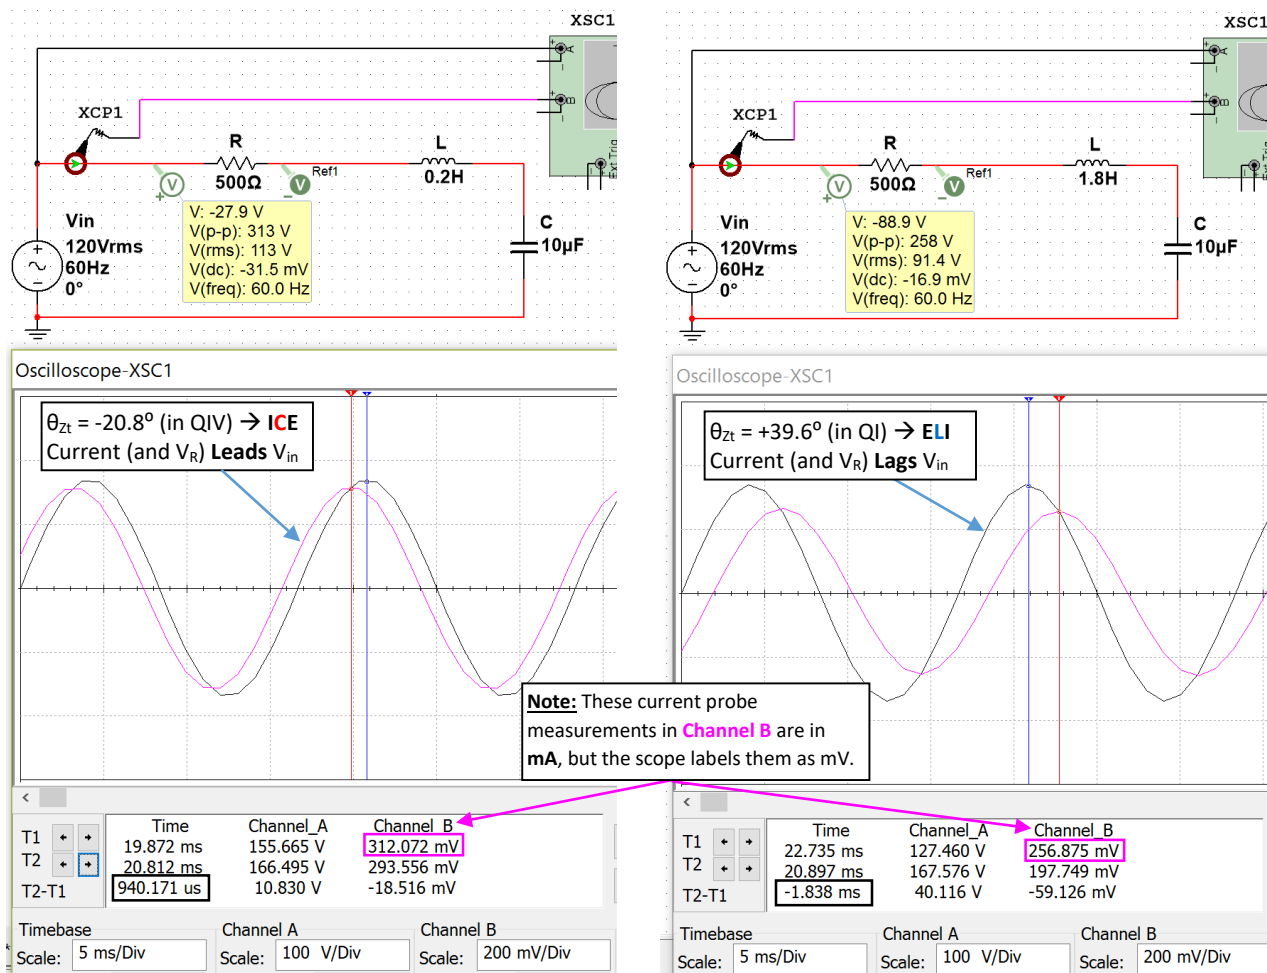

Figure 3.10: Current (Pink) and  $V_{in}$  (Black) Plots for Case 1:  $L = 0.2\text{ H}$  (Left) and Case 2:  $L = 1.8\text{ H}$  (Right)
* Multisim Current Verification for Case 1 and Case 2 current calculations (See <a href="#">Figure 3.10</a> below).